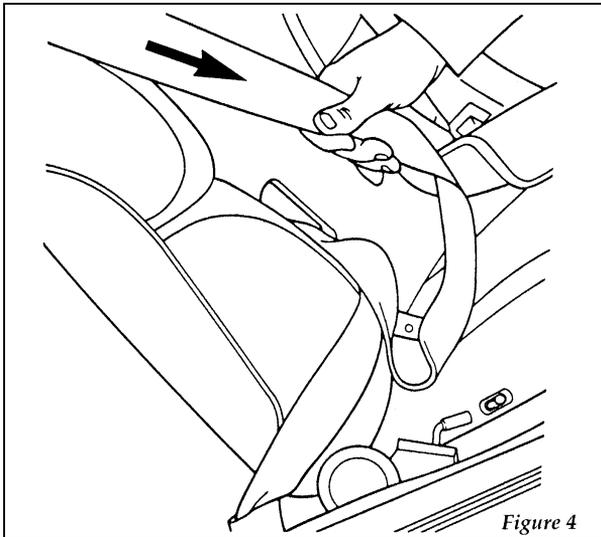

Figure 4
5. Grasp the shoulder portion of the belt and pull downward until all of the belt is extracted and a click is heard. At this time, the retractor is in the automatic locking mode (child seat restraint mode). Figure 4.
6. Push down on the child seat and pull up on the shoulder belt portion to tighten the lap belt portion of the combination lap and shoulder belt. See Figure 4.